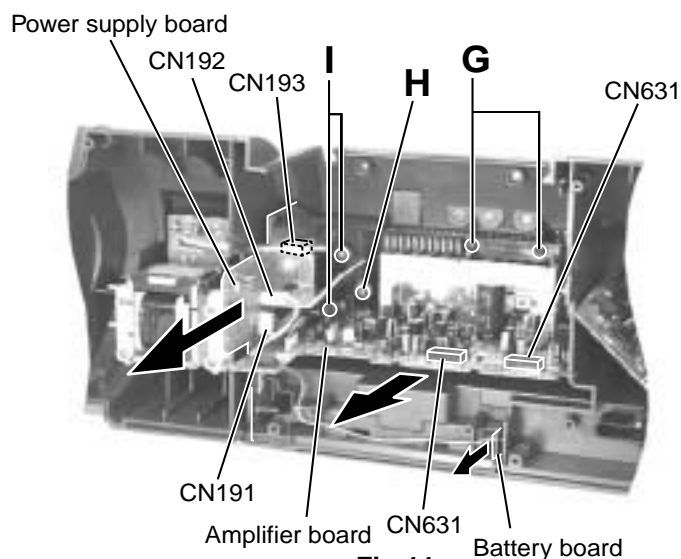

**Fig.10**
■ **Remove the power transformer assembly (See Fig.10)**